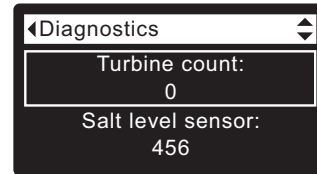

FIG. 111
2. Press the DOWN (▼) button to scroll through the list until **Turbine Count** is displayed (See Figure 111).